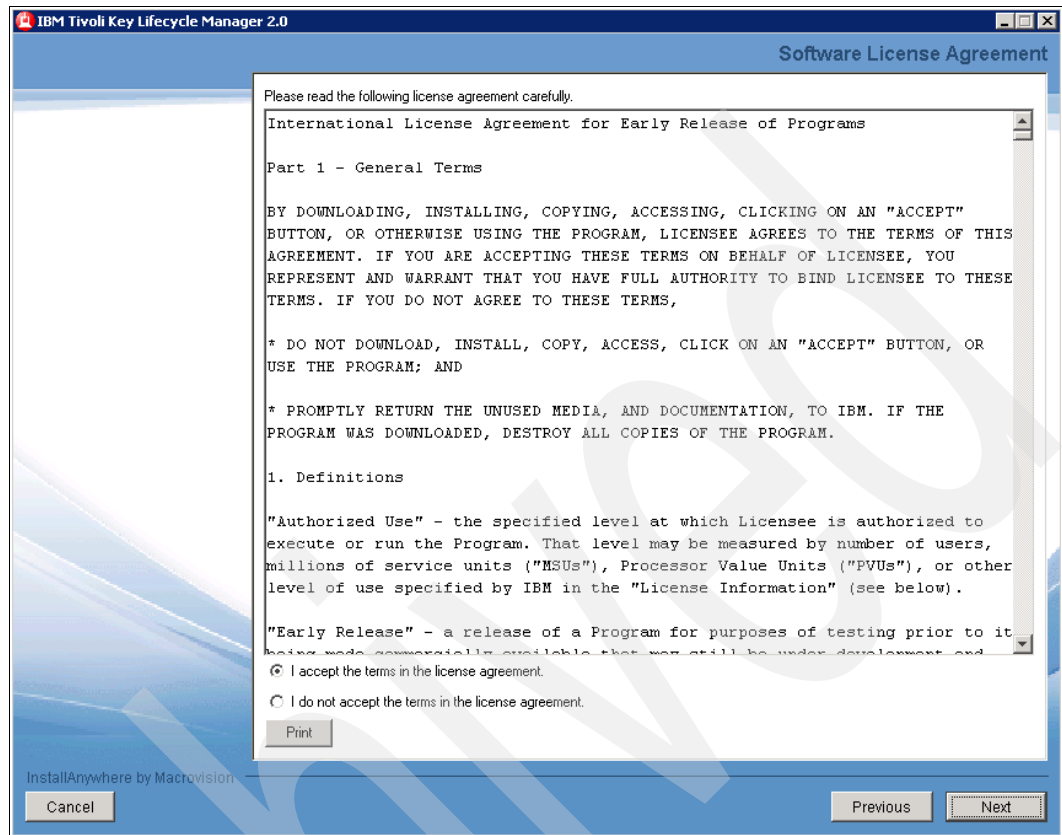

Figure 6-3 TKLM\_v2\_license
3. The License agreement is displayed (Figure 6-3). Click to accept the license terms; click **Next**.